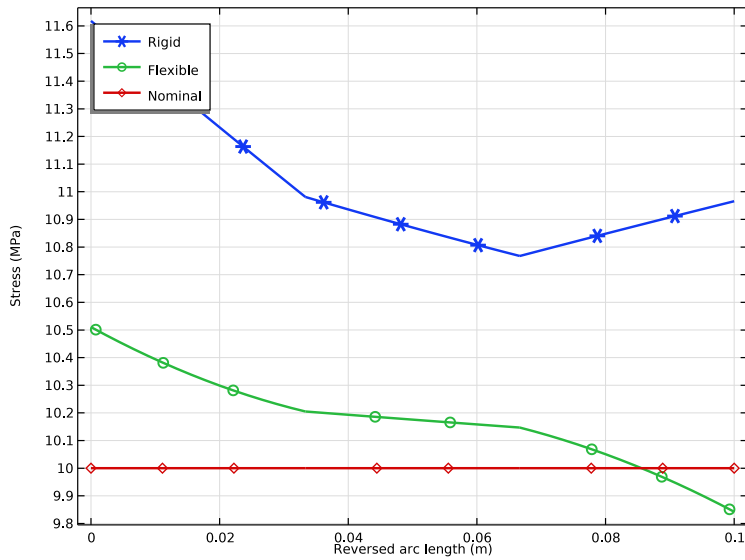
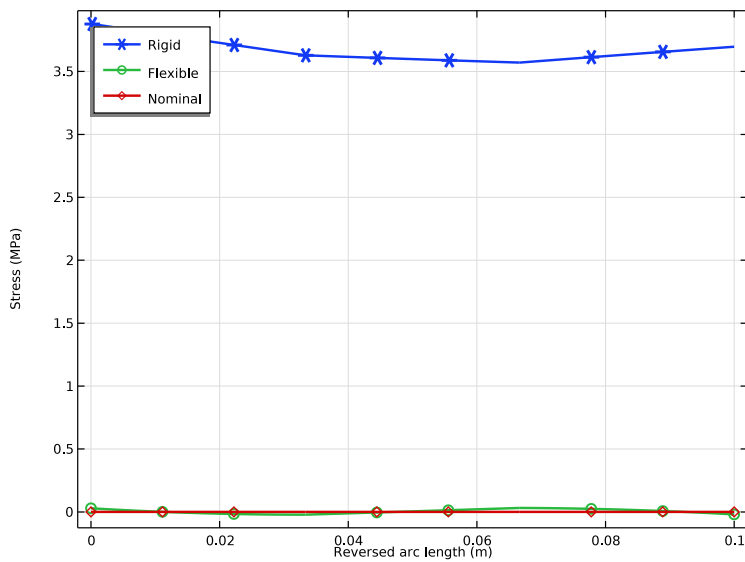

Figure 6: Axial stress through the thickness at the transitions (tension).
Figure 7: Transverse stress through the thickness at the transitions (tension).
- The details of the stresses in the transition can be seen in Figure 6 and Figure 7. In the latter figure it is clear that the flexible condition can describe the fact that the transverse stress should be zero much better than the rigid counterpart. The small bending stress seen also for the flexible connection depends on the fact that there is actually somewhat less material inside of the midsurface than it is outside of it. For a flat transition it would disappear almost completely.